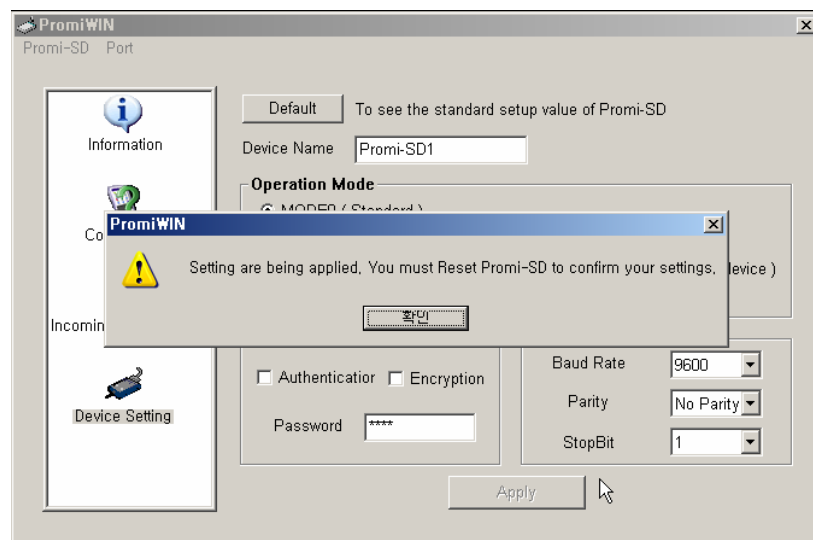

Figure 2.
5. Click the 'Device Setting' icon in the list control box. Set a new device name as shown in Figure 2. Here, 'Promi-SD1' is used for example.